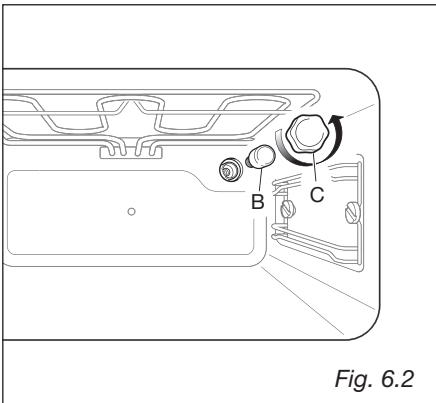

Fig. 6.2
- Remove the protective cover **C** (fig. 6.2);